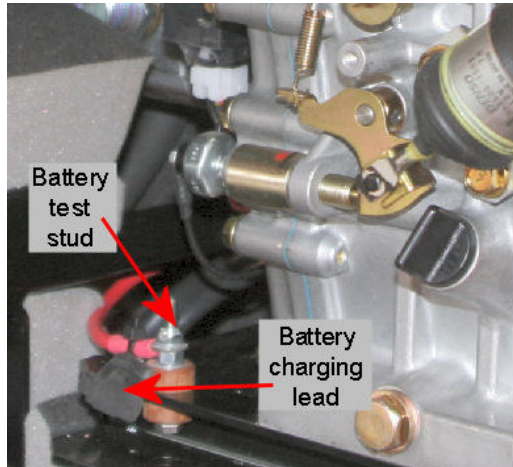

Fig 4-1 Battery test stud
1. Check the battery voltage with the ignition switch off. This can be measured between the battery test stud shown in *Fig 4-1* and chassis.